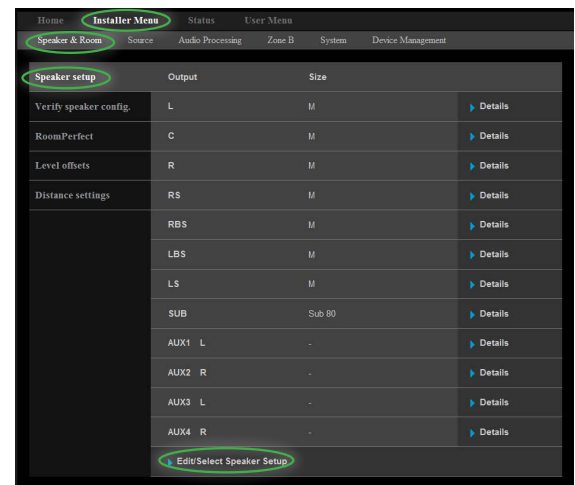

Figure 5
6. Click on "Installer Menu" followed by selecting "Speaker Setup" and then "Edit/Select Speaker Setup" Menu items. Refer to figure 5.